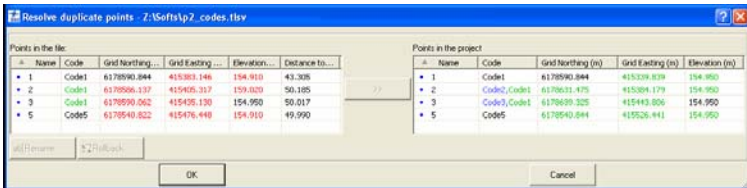

Figure 5-21. The Resolve Duplicate Points Dialog Box
**Resolve duplicate points** dialog box (Figure 5-21 on page 5-15) consists of two panes. The right pane contains a list of points with duplicate names in the project, and the left pane contains a list of duplicate points in the imported file/job (the name of the file is displayed in the window title).